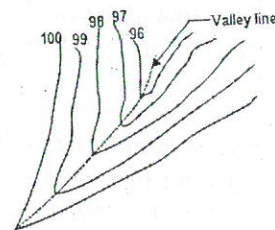

Fig. 2
9. Contour lines with V-shaped with convexity towards higher ground indicate valley (Fig.2).